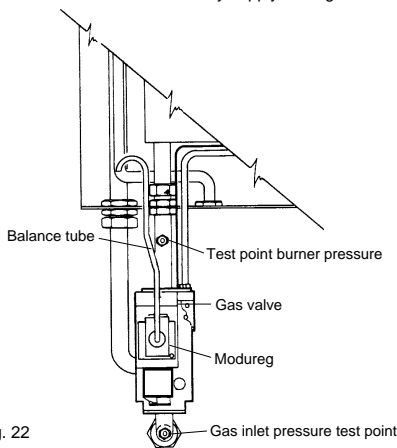

Fig. 22
- Loosen the screw in the burner pressure test point (fig. 22) and attach a gauge.
- e. Disconnect one of the wires from the «Modureg» (fig. 22), this will reduce the burner to minimum which should read 3.5 mbar +/- 0.5 mbar. If the burner pressure is not as stated check the inlet working pressure (fig. 22) which should be minimum 20 mbar. If that is correct, consult Ferroli. No attempt should be made to alter D.H.W. burner pressure.